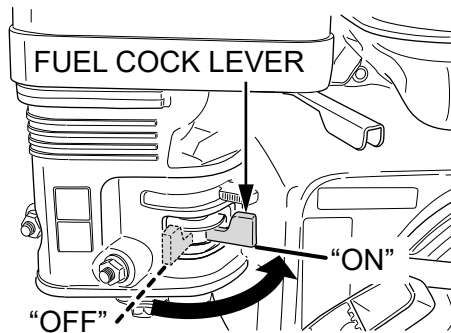

Figure 16. Fuel Cock Lever (ON)
2. Move the fuel cock lever to the "ON" position (Figure 16).